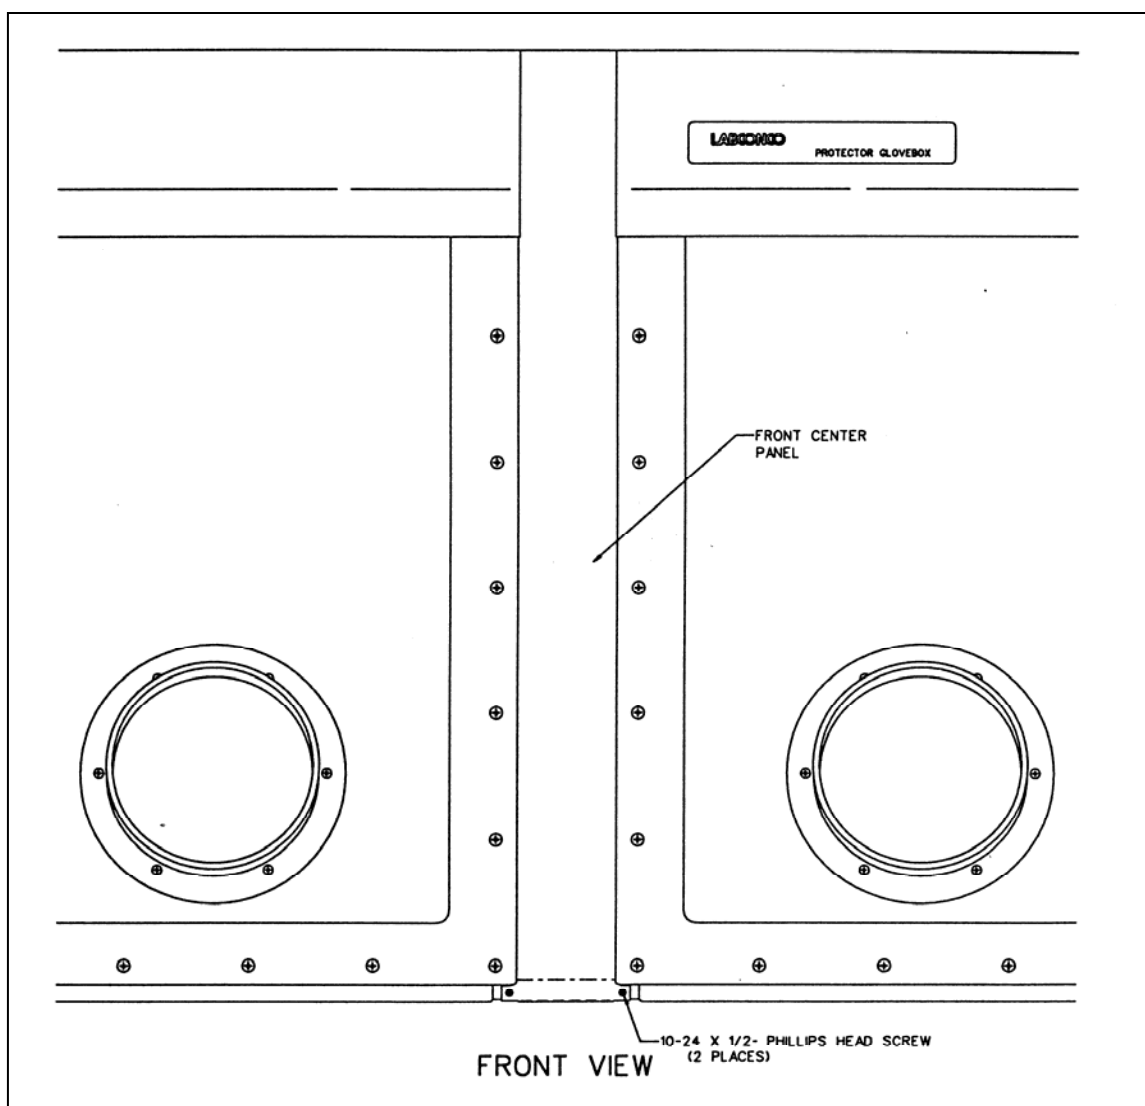
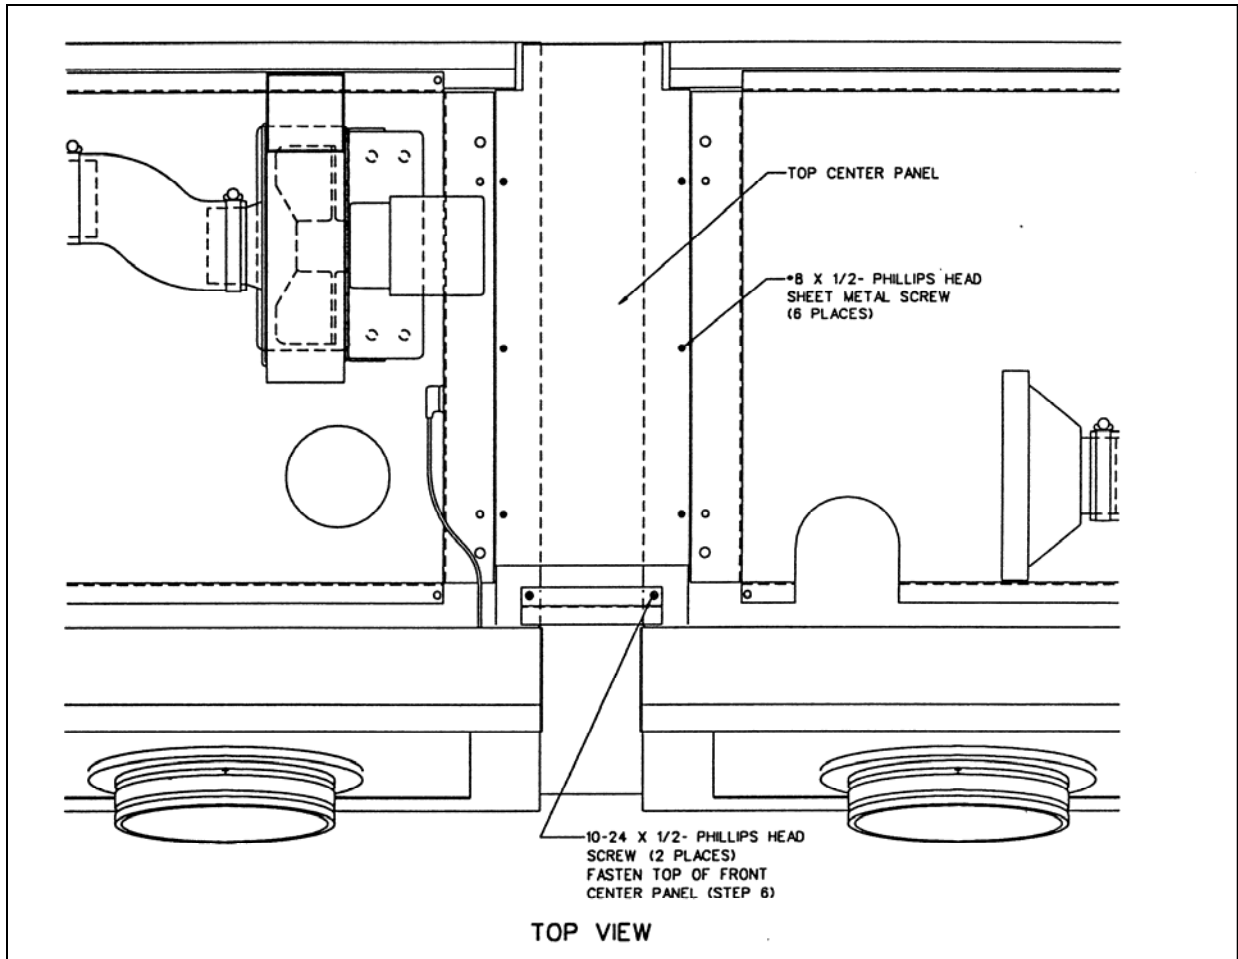

Figure 9
Figure 10
Position the panel behind the window frame edges and fasten at the bottom with 10-24 x 1/2" Phillips head screws (2 places). See Figure 9. Also fasten the panel at the top with the same type screws (2 places). See Figure 10.
Step 8: Installation of the top center panel. See Figure 10